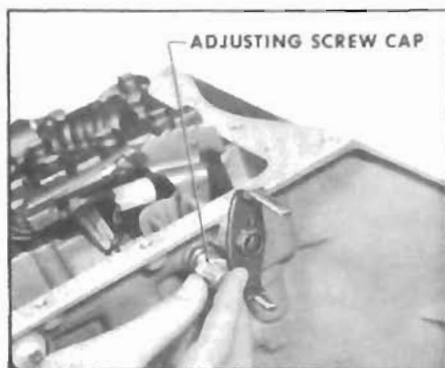

Figure 1-14—Installing Adjuster Screw Cap
3. Replace adjusting screw cap. Refer to Figure 1-14.